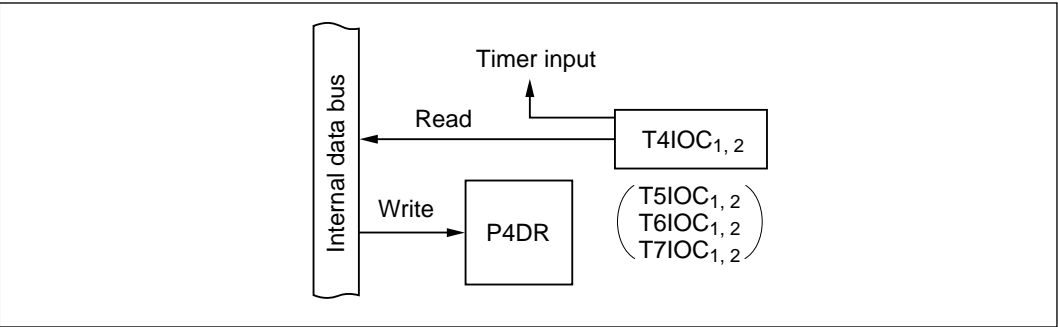

Figure 10-26 Input Capture Combined with General-Purpose Input (Modes 1 to 7)
(5) Timer Input Combined with General-Purpose Input (Modes 1 to 7): Figure 10-26 shows a block diagram illustrating the input capture function when combined with general-purpose input. Table 10-20 indicates register read/write data. An input capture pin can also be read as an input port, to monitor the timer input level at T4IOC₁, T4IOC₂, T5IOC₁, T5IOC₂, T6IOC₁, T6IOC₂, T7IOC₁, or T7IOC₂.